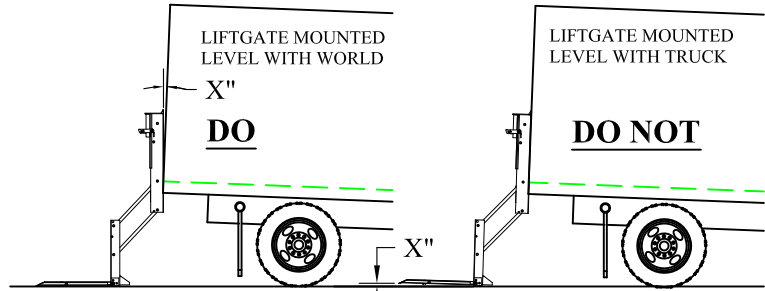

Figure 7: Liftgate level to the world.
- Level** the liftgate to the world, not to the truck (Figure 7).